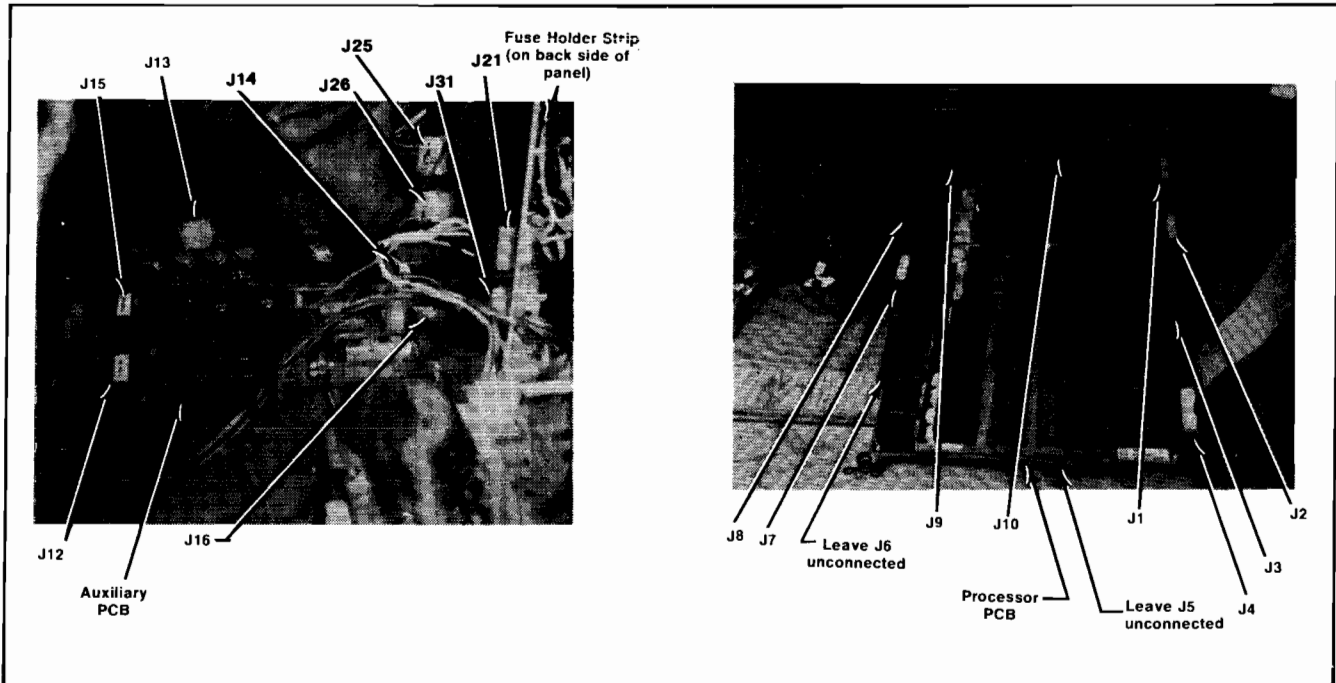

Figure 3 Locations of Certain Connectors Inside the Cabinet
Step 4) Prior to shipment of the game from the factory, various quick-disconnect connectors and PCB edge connectors have been unplugged, and portions of the harness wiring have been temporarily tied down. Now remove these ties and mate all connectors. Refer to Figure 3 for locations of various connectors inside the cabinet. Please note that color-coded connectors mate with edge connectors of same color. Color dot on each edge connector is near pin 2.